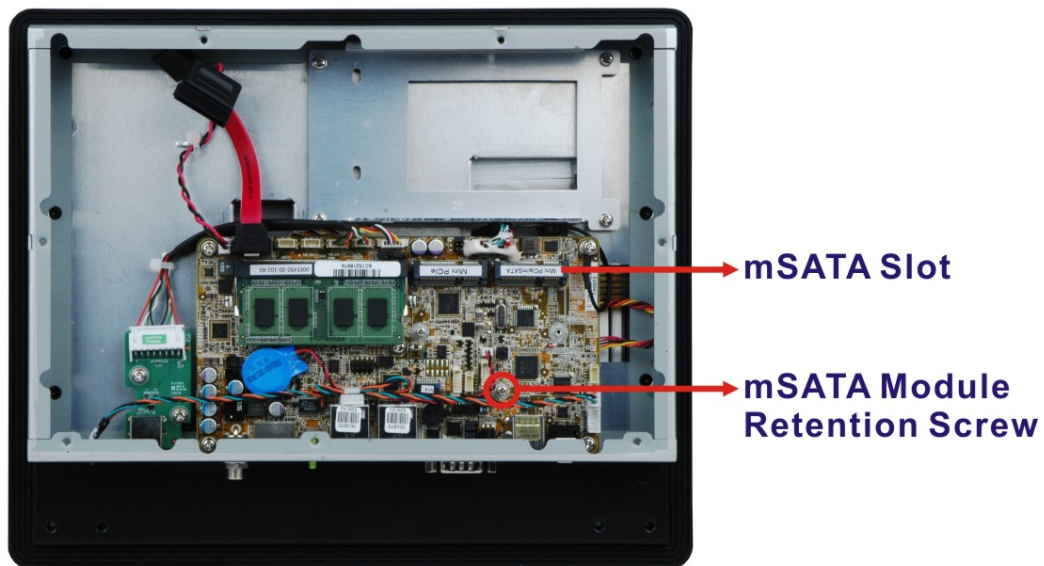

Figure 3-3: mSATA Module Slot Location
- Step 2:** Locate the full-size PCIe Mini card slot. Remove the preinstalled retention screw on the screw pillar of the PCIe Mini card slot as shown in **Figure 3-3**.